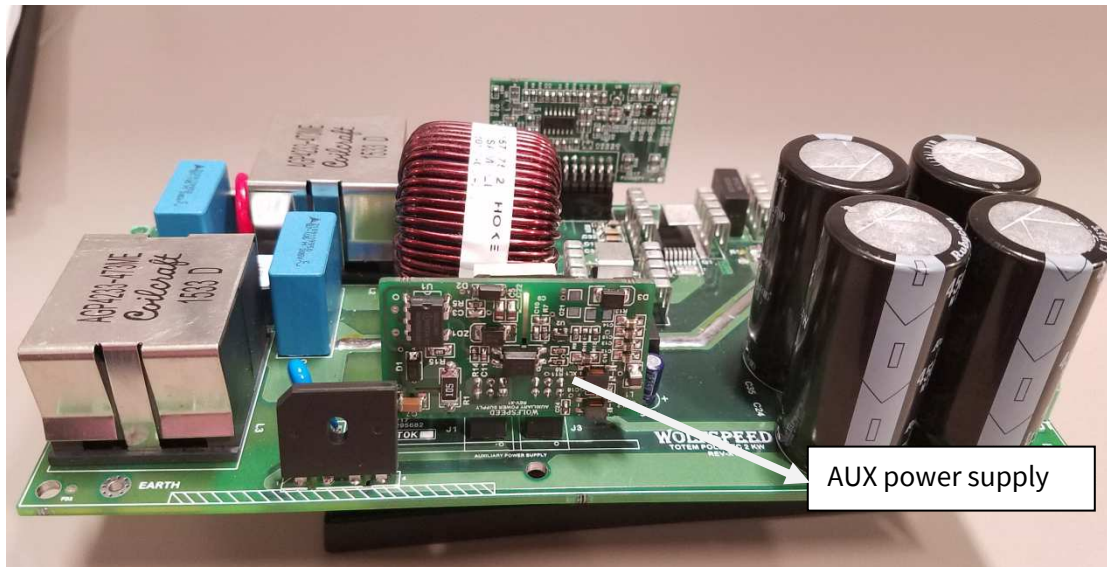

Figure 15: Auxiliary power supply board location on Wolfspeed's CRD-02AD065N reference design board
7. If step 1 to step 6 are successfully completed then connect the test set up as shown in Figure 15. Wolfspeed's CRD-02AD065N reference design board doesn't have inrush protection, so connect the input supply only with an auto transformer.